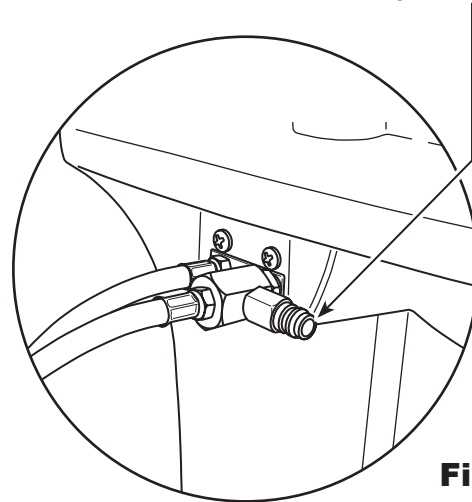

Figure 20
1. With the machine still connected to the vehicle and the couplers open, connect the low-side (blue) coupler from the 25700 to the contaminant recovery port on the back of the machine. See Figure 20. Open the coupler valves.